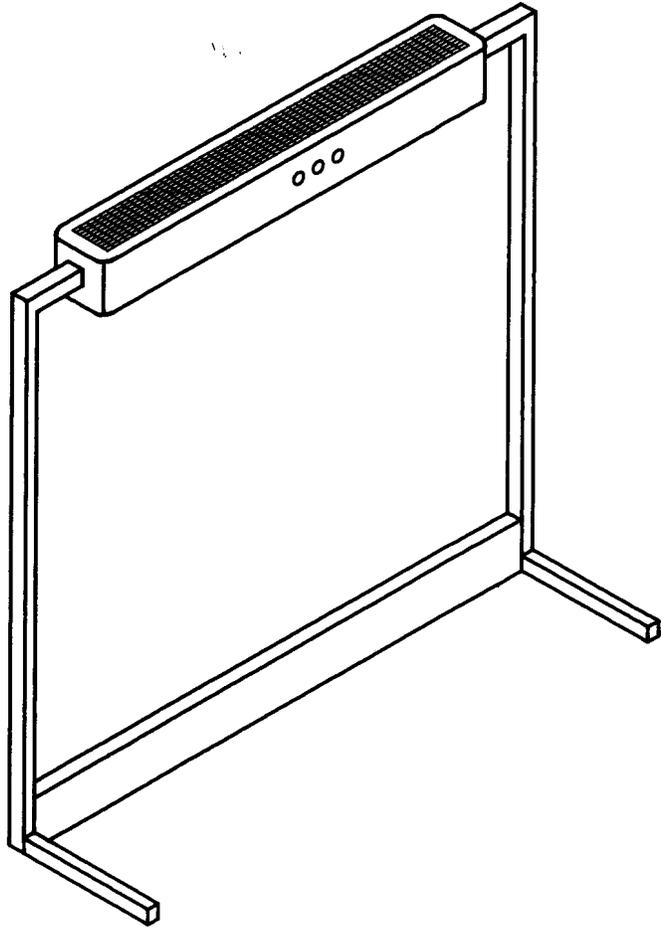

Fig. 8—KS-22391, L1, Lamp Tool
2.12 KS-22391, L2: The KS-22391, L1, lamp tool (Fig. 8) is a free-standing fluorescent lighting fixture. It is a dual-purpose luminaire (indirect/direct) system for ambient and task lighting. A reflector and specular louver direct light upward for ambient illumination. A bat-wing louver directs light downward from two lamps for task lighting.